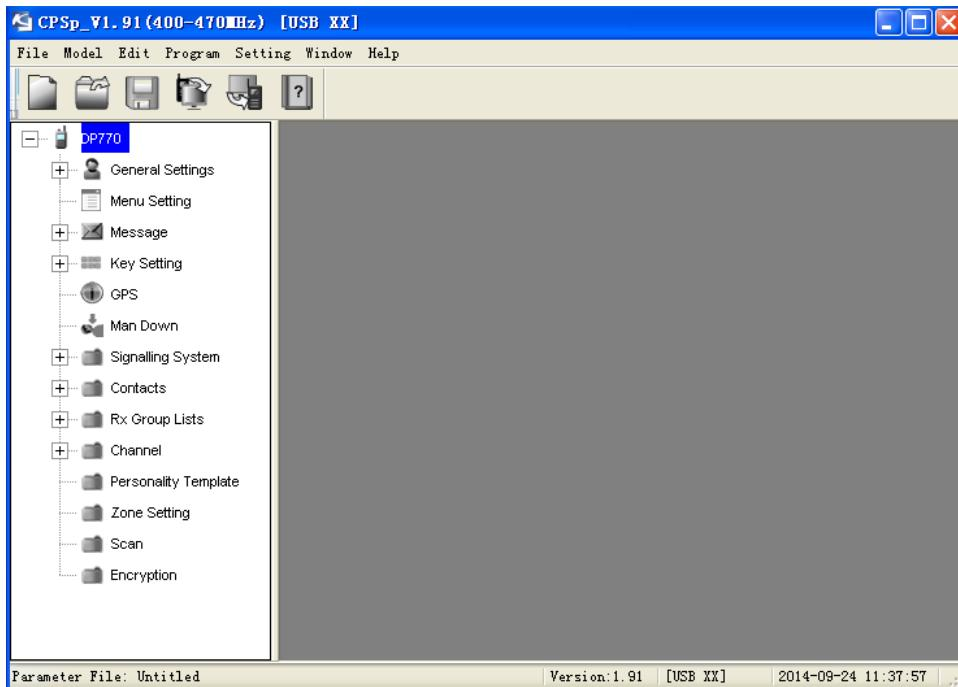

Figure 4.6
- (5) Click "Finish" to finish the installation.
- (6) Please double click the Kirisun DMR Programming Software to run it after finishing installation.(See figure 4.6)